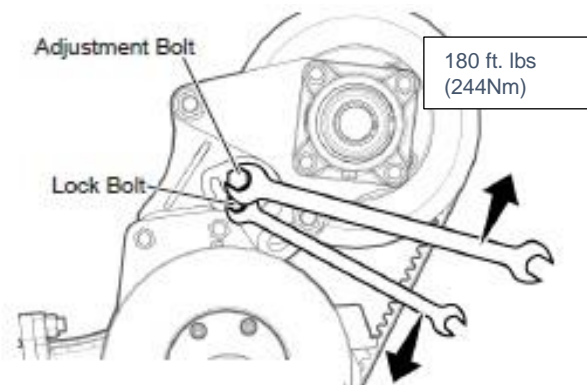

Figure 62
7. While holding the lock bolt in place with one wrench, place a second wrench on the adjustment bolt and lift up with 180 ft/lb (244 Nm) of force. Ensure the lock bolt is tight. Figure 62